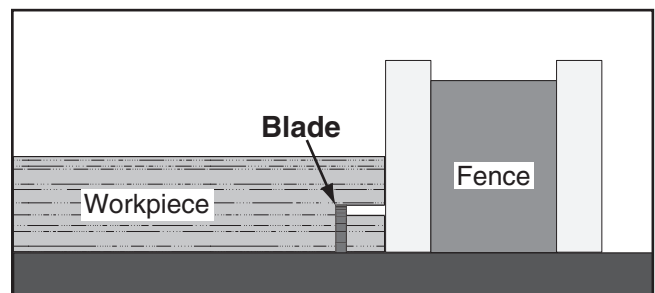

Figure 62. Second cut to create a rabbet.
7. Lay the workpiece flat on the table, as shown in **Figure 62**, adjust the saw blade height to intersect with the first cut, then perform the second cut to complete the rabbet.